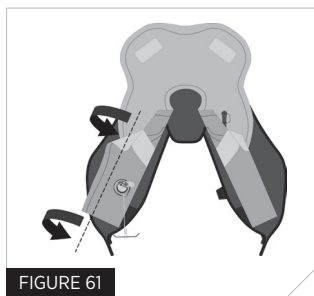

FIGURE 61
8. Fold and tuck outside edge under, along fold line 8 (Fig 61).